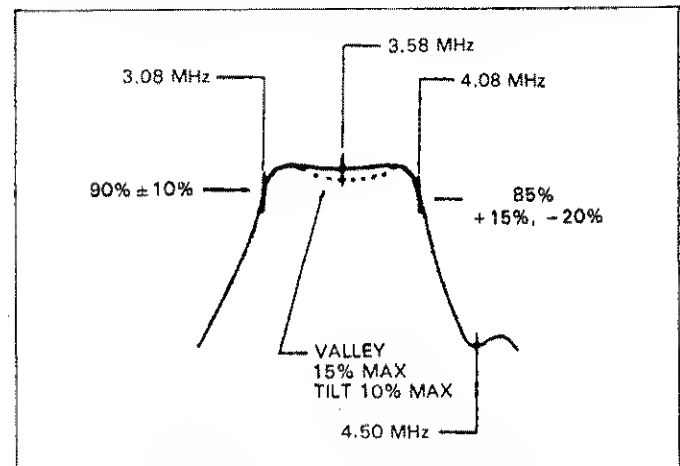

Fig. 21. Frequency Response Measurement.
Frequency Response Measurements (refer to Fig. 21)
1. Connect audio or rf output of the sweep generator to the input of the circuit under test and the output of the test circuit to channel 2 (vertical axis) of the oscilloscope. A demodulator probe will give a "text book" frequency response display as shown in Fig. 21, but a standard probe can be used which will result in an envelope display.